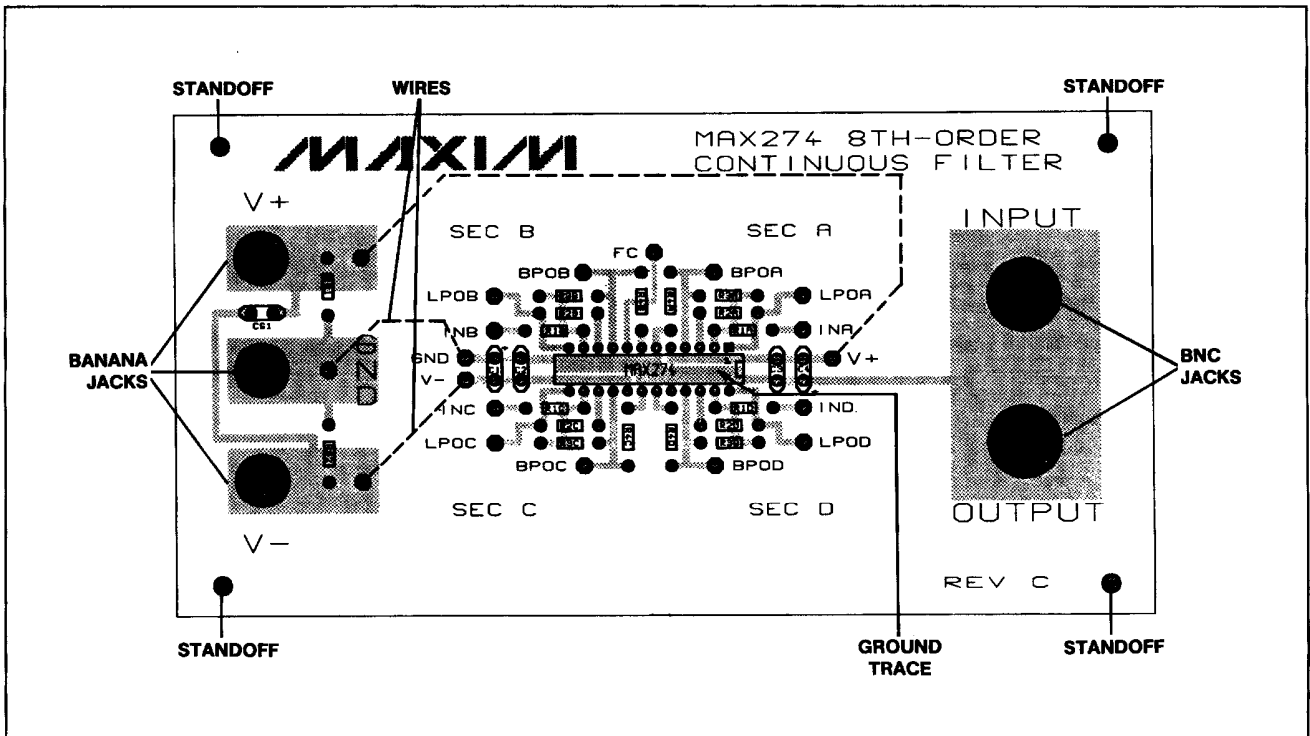
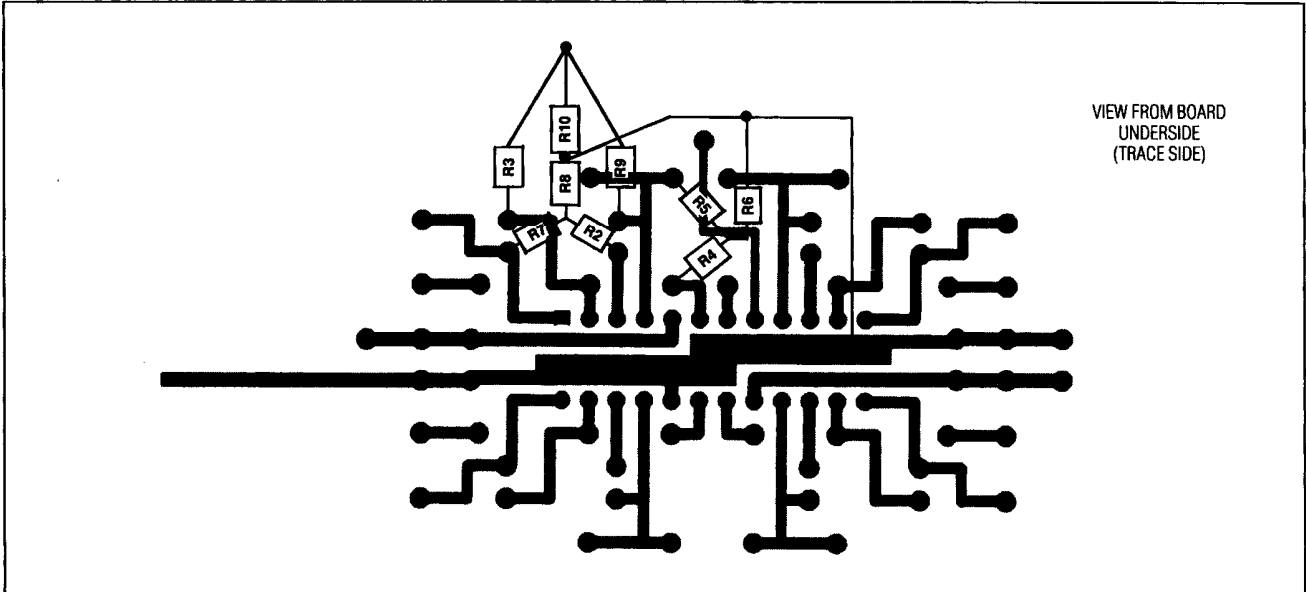

Figure 2. MAX274 EV Kit Component Placement Diagram
Figure 3. T-Network PC Board Connections
1. Install BNC connectors and banana jacks as shown in Figure 2. Connect wires from the V+, GND, and V- jacks to the nodes designated V+, GND, and V- on the circuit. Install MAX274 IC as shown (or install an IC socket if desired).
On the PC board, scratch off the green soldermask from the ground trace (Figure 2). Where required, substitute each normal resistor connection (R2, R3, or R4) with three T-network resistors on the underside of the board, using jumper wire to connect the T-network ground connection with the ground trace on the PC board (Figure 3).
where FPK is the frequency at which the gain at BPOA is greatest (this may not be equal to F₀); and the -3dB bandwidth is the difference between the two frequencies at which BPOA is attenuated by 3dB from its peak gain. Repeat these measurements for filter sections B, C, and D. For more information, refer to Figure 2 of the MAX274 data sheet, *Bandpass Output*.